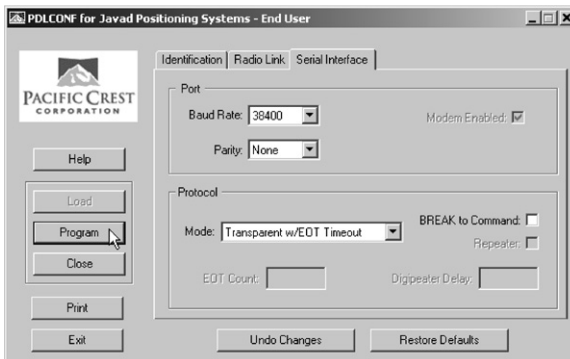

Figure 2-28. PDL – Click Program
12. If you made changes, click the **Program** button on the left of the screen to save setting changes to the modem's memory (Figure 2-28).